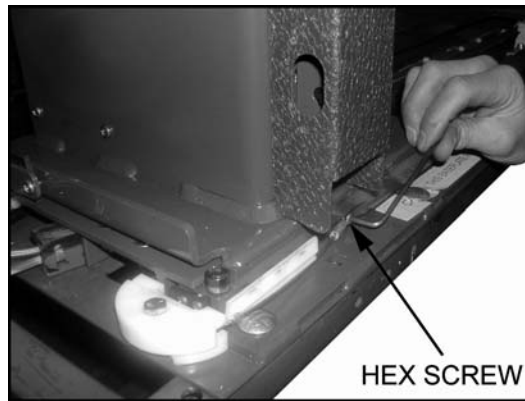

FIGURE 7
6. Refer to **FIGURE 7**. Remove hex screw to detach anchored end of cable. Retain plastic guide for installation.
11. Install existing hex screw to anchor the cable end onto the baseplate as shown in **FIGURE 7**.
Note: Ensure that the plastic guide retained from removal procedure is reinstalled as shown in **FIGURE 7**.